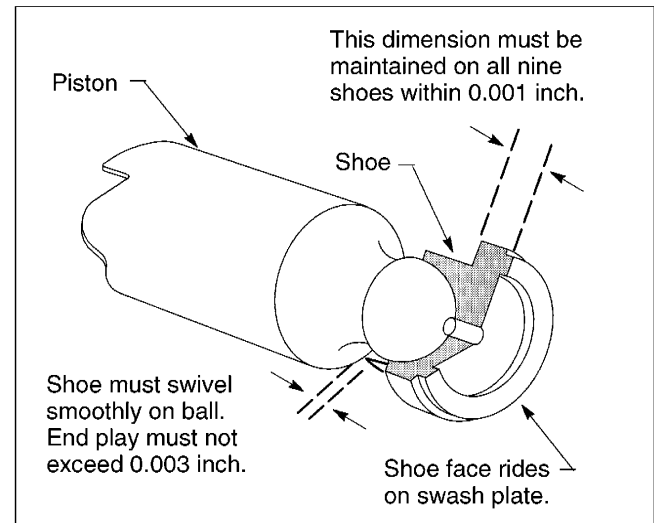

Figure 6. Piston and Shoe Assembly Tolerances
1. Valve Plate (7) – Lapping of the valve plate is not recommended. If wear or scoring is apparent, replace the valve plate. Check the shaft bearing located within the valve plate for roughness and pitting of the rollers. Replace if defective. Remove paint and/or burrs from outer edge of valve plate with an India stone.
2. Piston Rod (9), Spacer (10) and Piston (11) – Inspect compensator piston rod and piston for fit and/or wear. Spacer (10) is used on some models to limit maximum flow. Replace if defective.
a. Inspect shoe plate (20) for wear or cracking in the area of spherical washer (19). If wear or cracks are found, replace the shoe plate and spherical washer at the same time.
b. Check spherical washer (19) for burrs and wear. Replace if defective.
c. Inspect pins (17) for equal length, wear and possible bending. Replace all pins simultaneously if one is defective.
d. Backup washer (18) does not exist in all models. Check for wear and replace if necessary.
e. Check each cylinder block (16) bore for excessive wear. Use the piston/shoe subassemblies (21) for this purpose. The piston should be a very close fit and slide easily in and out of the bore. No bind can be tolerated. If binding occurs, clean the cylinder block and piston, lubricate with clean hydraulic fluid and try again. Even minor contamination of the fluid can cause the piston to freeze up in the cylinder block bore.
f. Inspect each piston and shoe subassembly (21) for a maximum end play of 0.003 inch between the piston and shoe. The face thickness dimension, as shown in Figure 6, of each shoe must be within 0.001 inch of each other. A variation greater than 0.001 inch between all nine shoes indicates excessive wear. If one shoe needs replacement, replace all piston/shoe subassemblies. Replacement as a matter of procedure is recommended to obtain maximum overhaul life of the unit.
g. Inspect retaining ring (12), lift limiter washer (13), spring (14) and thrust washer (15) within cylinder block (16) for wear. Replace if necessary.
4. Inspect the face of swash plate (22) for wear, scratches and possible fracture. If the swash plate needs replacement, make sure the new swash plate rests flat against the face of yoke subassembly (27).